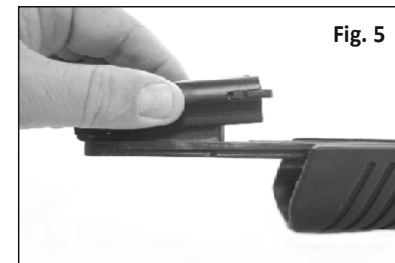

Fig. 5
4. The bolt is exposed and available to lift off the slide assembly. The bolt must be aligned with the bolt retainer pin. Slide the bolt forward and rearward while lifting up to detach the bolt from the slide (refer Fig. 5)